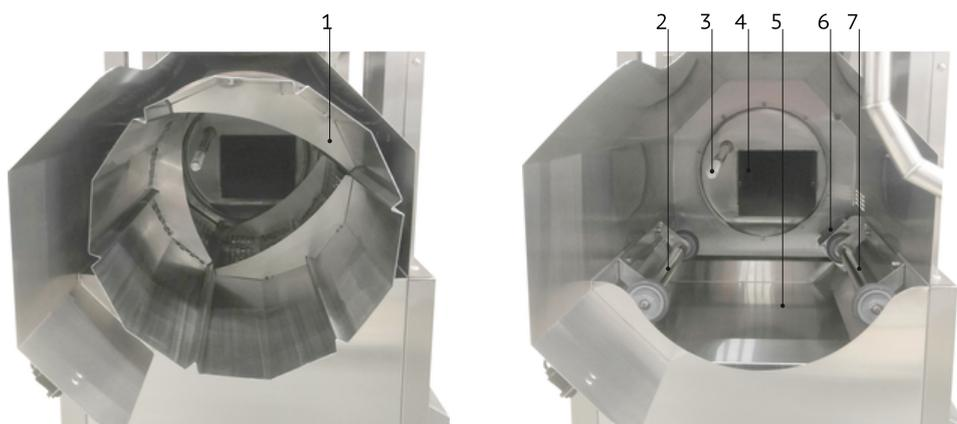

Figure 3
Sifter cabinet is shown on Fig. 3. Popped popcorn comes from the working chamber via opening (4). Sifter (1) has perforation that allows scrap to be screened to the crumb tray (5). Sifter lays on idle roller (2) and drive roller (7). Motor (6) drives the drive roller. Oil nozzle (3) is connected to the oil pump.